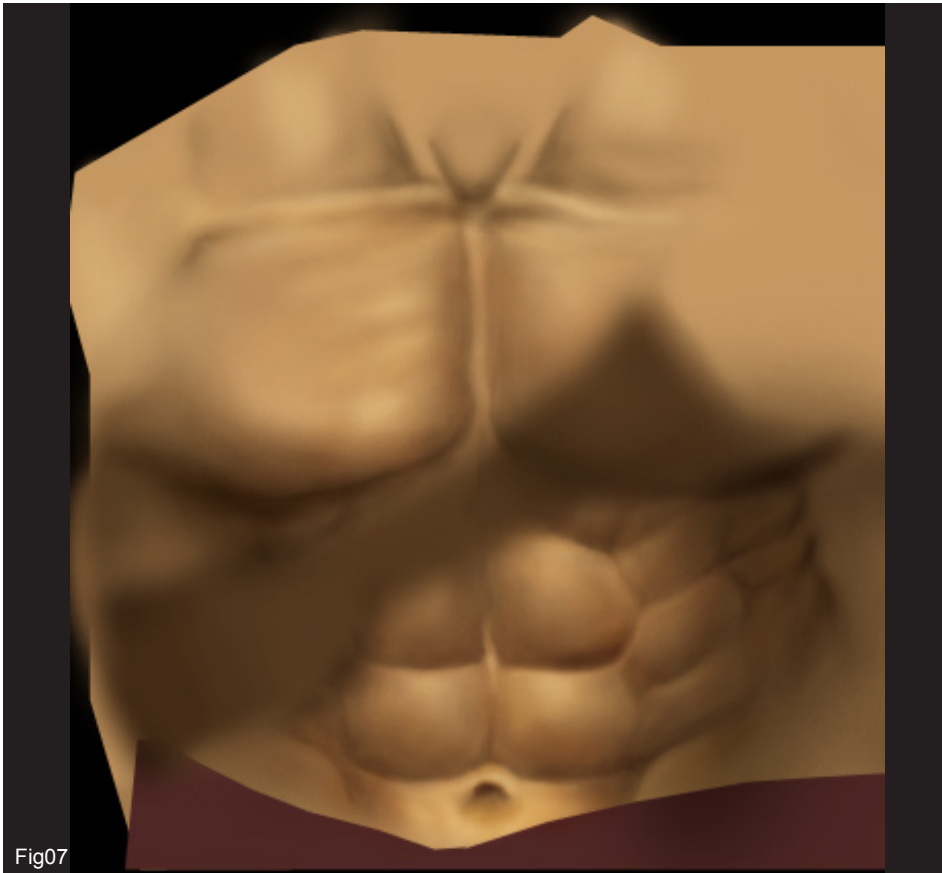

Fig07
7. When you have finished the shading on the torso, use the guideline to paint in a shaded area that follows the strap on a separate layer, which will help bind it to the body (Fig.07). You will also need to repeat this for the back section of the character too. Use the same colour as the shadow layer and set the blending mode to 'Multiply' to keep things consistent.